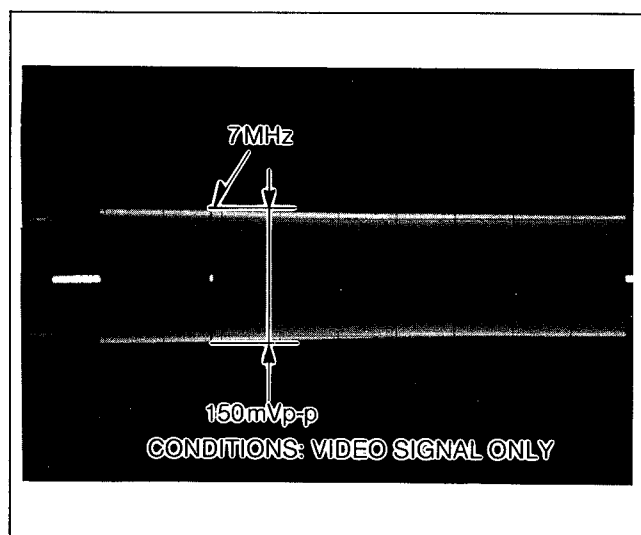

Fig. E17
3. Set the Video Sweep Signal Generator (video signal only) as shown in Fig. E17.